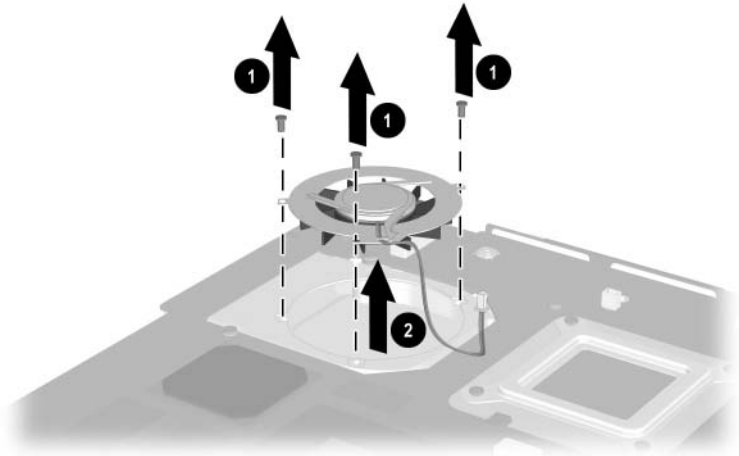

Figure 5-30. Removing the Fan on Evo Notebook N620c, N610c, and N610v Models
8. Remove the three PM2.0 × 4.0 screws ❶ that secure the fan to the heat sink (Figure 5-30).
9. Lift the fan out of the heat sink ❷.